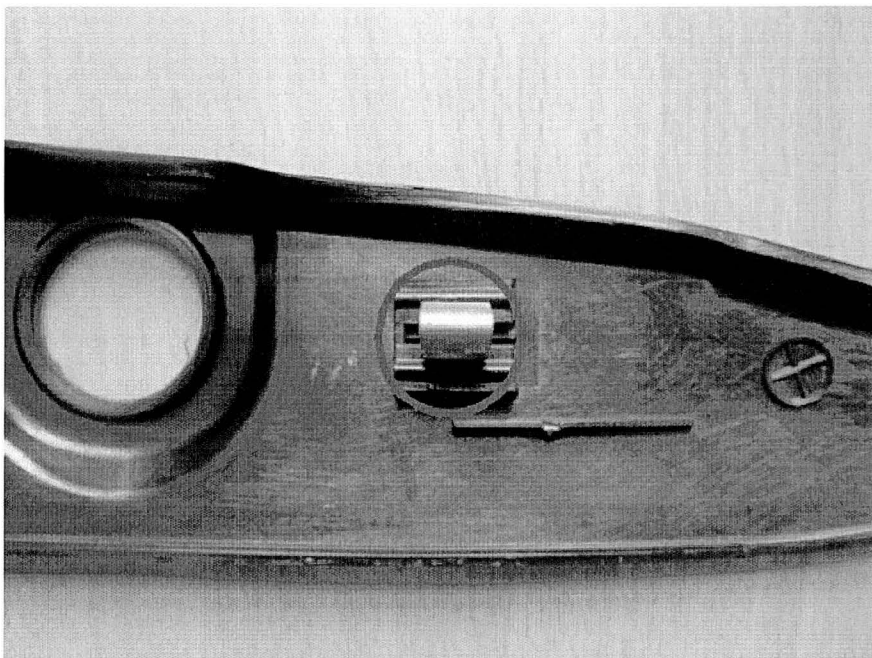

Figure 5
- Check that the latch cover clips are centrally positioned before refitting the latch cover (Figure 5)